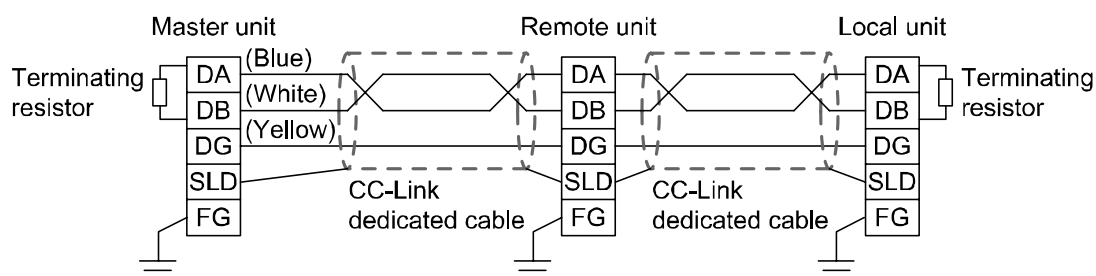

Fig. 2
- (2) Be sure to connect a terminating resistor between “DA” and “DB” at both ends of the CC-Link system. (Refer to Fig. 2) Use a CC-Link dedicated cable, or a cable with the same specifications. If a cable with any other specifications is used, normal data transmission cannot be guaranteed.